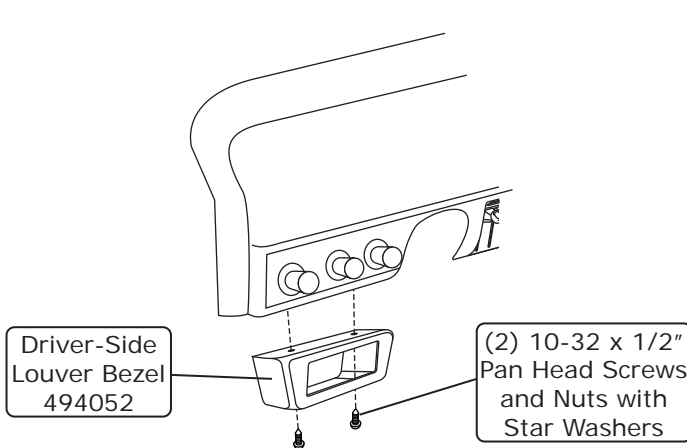

Figure 1
1. Align the louver bezel under the dash, then use the bezel as a guide to mark and drill (2) 3/16" holes.
2. Secure the louver bezel under the dash using (2) 10-32 x 1/2" pan head screws and (2) 10-32 nuts with star washers (See Figure 1, below).